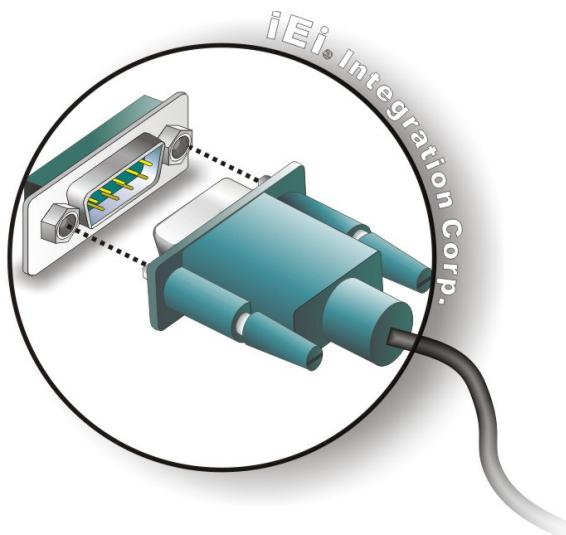

Figure 3-9: Serial Device Connector
Step 2: **Insert the serial connector.** Insert the DB-9 connector of a serial device into the DB-9 connector on the external peripheral interface. See Figure 3-9.